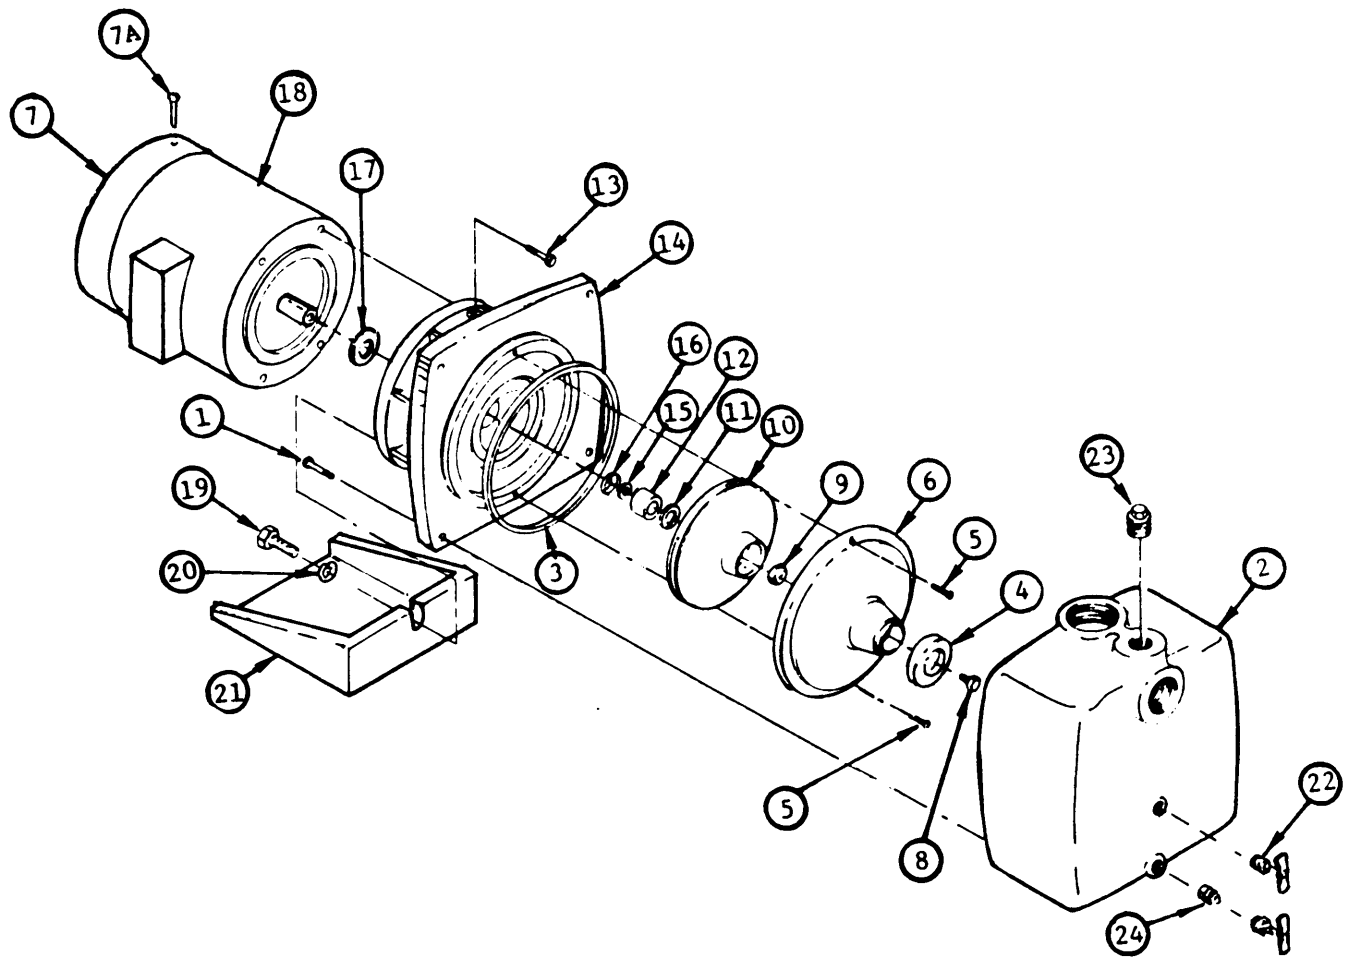

Figure 3-35. Raw Water Pump
- b. Removal. (Figure 3-35)
- (1) If necessary, see paragraph 2-43 to remove raw water pump from frame.
- (1) Replace used gaskets, stationary seat gaskets, mechanical seals, stationary seats, O-rings, slingers, and seals.
- (2) Replace damaged nuts, bolts, screws, lock bolt, washers, and lockwashers.
- (3) Replace damaged or worn suction sleeve, diffuser, and fan cover.
- (4) Replace damaged priming plug and petcocks, if threads cannot be recut.
- (5) Retap threads on pump frame, pump stand, and pump case, or replace component part, if badly damaged.
- (6) Replace unrepairable pump impeller.
- (7) Repair motor assembly in accordance with paragraph 3-15.
- (8) Send unrepairable pump to next higher level of maintenance.
f. Reassembly. (Figure 3-35)
- (1) Install priming plug (23) in pump casing (2).
- (2) Install two petcocks (22) and adapter (24) in pump casing (2).
- (3) Place pump frame (14) in stand (21) and install lockwasher (20) and bolt (19) in pump frame (14).
- (4) Slide new slinger (17) over shaft of motor (18).